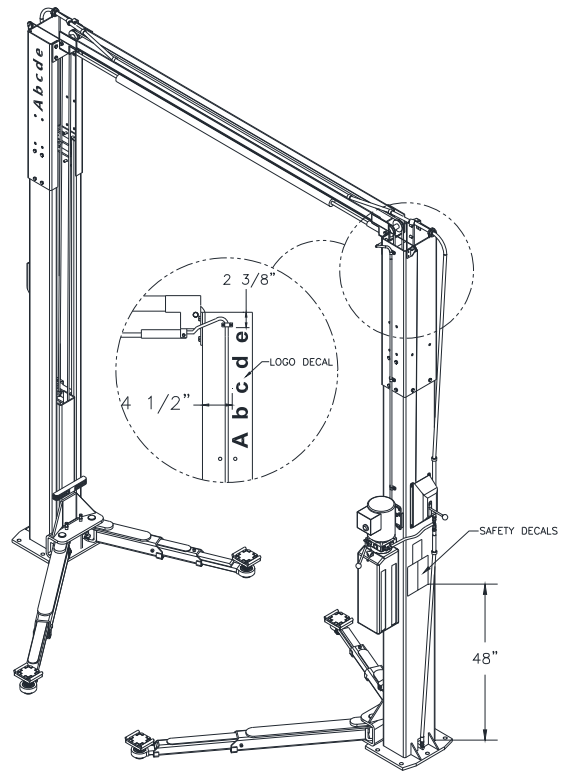

Fig. 12 – Safety & Logo Decal Placement
43) Apply the Safety Decals (Pg. 3) 48" above the base plate on the power column and the Logo Decal 48" above the base plate on the idler column. **Fig. 12.**